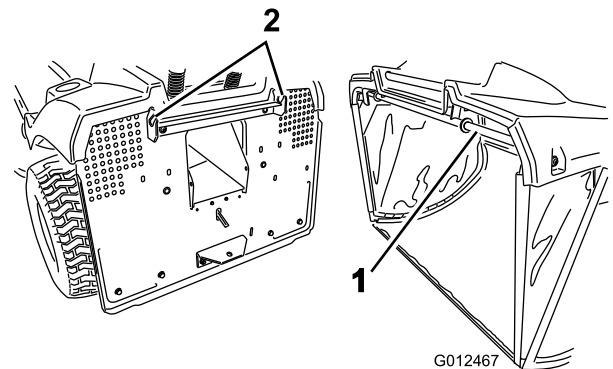

Figure 39
1. Hang the top support bar onto the 2 notches in the support bracket at the rear of the machine (Figure 39).